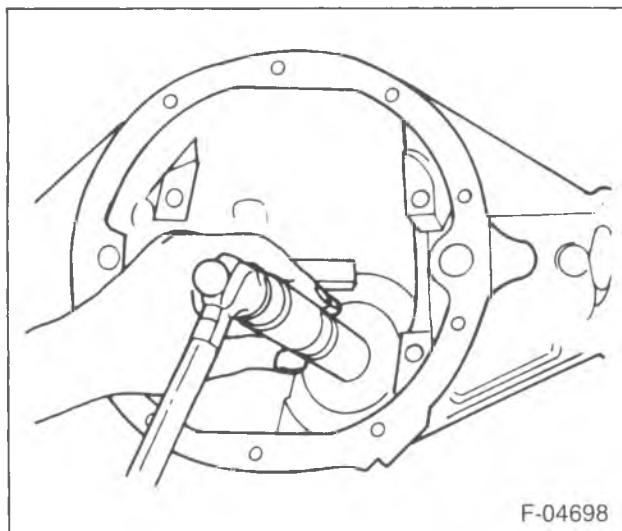

Figure 10—Rear Pinion Bearing Cup Installation
- Rear pinion bearing cup using J 8608 and J 8092 (figure 10).